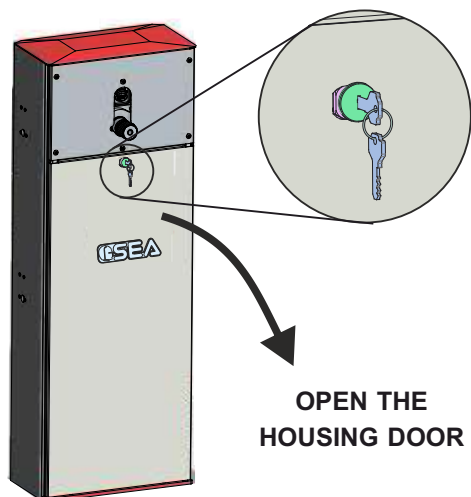

Fig. 19
- Open the barrier housing door, using the special key supplied - Fig. 19